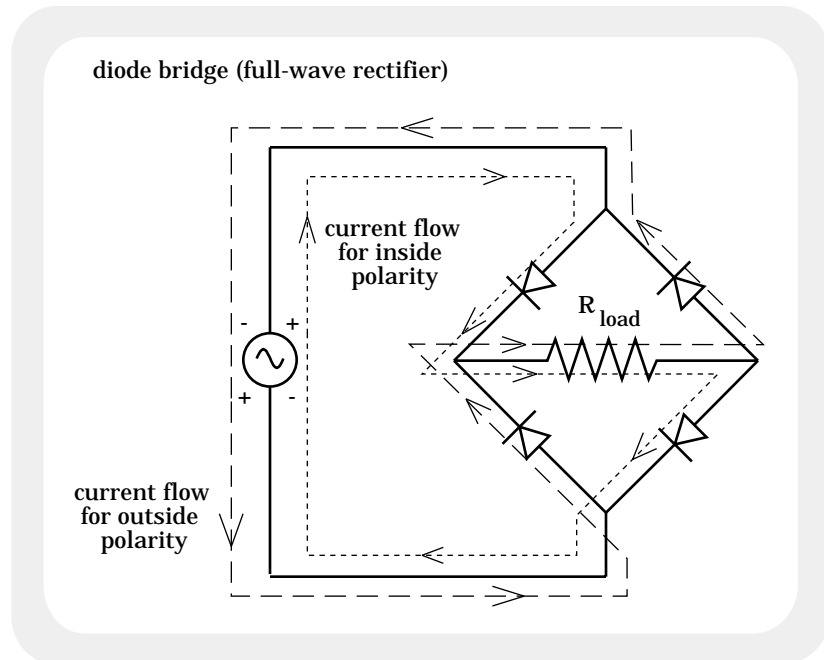

FIGURE 21.6
a.) Consider the diode bridge and power supply shown in Figure 21.6 on the next page. With the voltage polarity such that the + terminal is on the upper side of the power source (this polarity is shown on the inside of the circuit diagram), the current in the circuit flows through the load resistor from left to right.